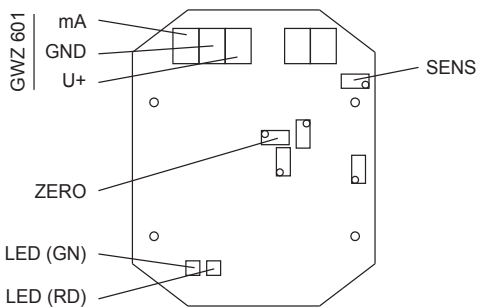

Fig. 13.1: Transmitter board
If the readings are not 0.00 ppm after the sensor has been replaced, adjust the transmitter. This will ensure that the transmitter produces a 4 mA signal when the air to be measured does not contain measuring gas. The potentiometers used for adjustment are located on the sensor board in the housing (see Fig. 13.1 in section 13). The zero point setting potentiometer is labelled "Zero", while the sensitivity setting potentiometer is labelled "Sens". The other potentiometers are factory-set and sealed. They must not be adjusted.
*) see Fig. 13.1